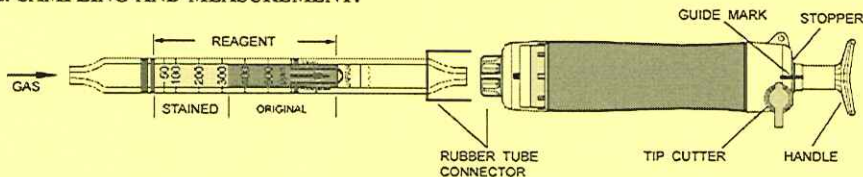

Fig.1
- ② Insert the detector tube into the aspirating pump securely as shown in Fig.1. (Arrow mark shall point to the pump.)
- ③ Align the guide marks on the shaft and stopper of the aspirating pump.
- ④ Pull the pump handle at a full stroke until it locks and wait for 1 minute or until the completion of sampling is confirmed with the flow indicator of the pump. (See descriptions about the flow indicator in the instruction manual of the pump.)
- ⑤ On completion of sampling, read the scale at the maximum point of the stained layer.
- ⑥ When the concentration is over the scale range, a 1/2 pump stroke can be used to determine concentrations of 100 to 1000 ppm.